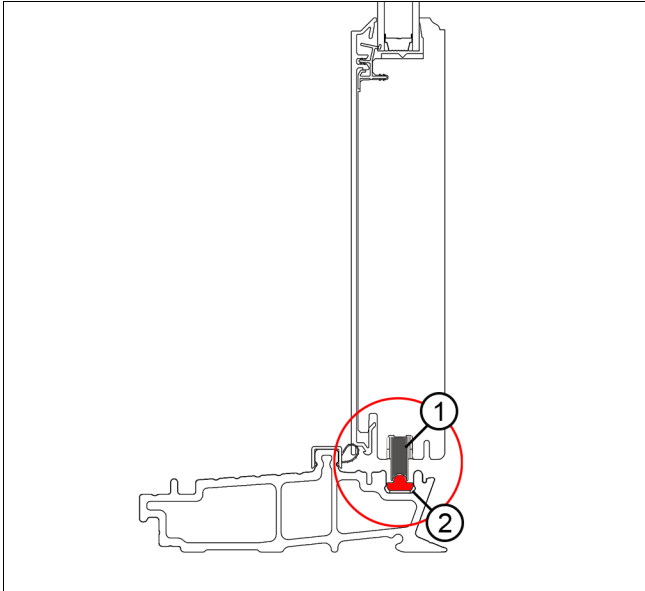

Figure 38
3. Set the panel on the track making sure the rollers are seated properly. A good visual indicator is that the groove in the end of the panel should be centered over the track. See Figure 38.